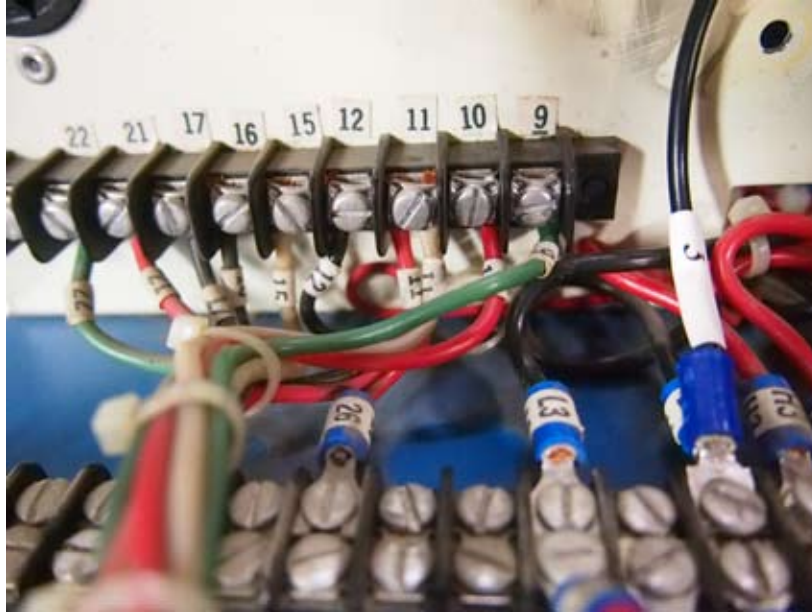

Figure 5
Step 3: Remove wire number 11 and black wire number 12 from terminal black next to 95A timer (before figure 5 after figure 6). Put both wires you just removed on any open terminals to terminal block on bottom of box. Then connect wire numbers 11 and 12 from retrofit kit to the same wires number on the block (Figure 7)